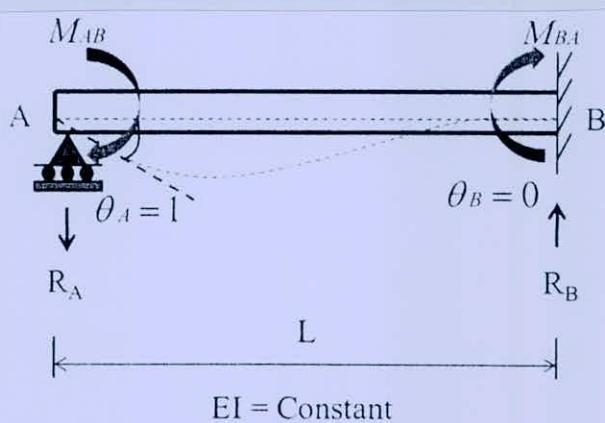

Figure 10
6. (a) The prismatic beam AB shown in Figure 10 is subjected to a unit rotation at end A. End B is fixed without any rotation. (i) Calculate the end moments, M_{AB} and M_{BA} from the basics. (ii) Obtain the stiffness, K_{AB} . (iii) Calculate the carry over factor, C_{AB} . (8)